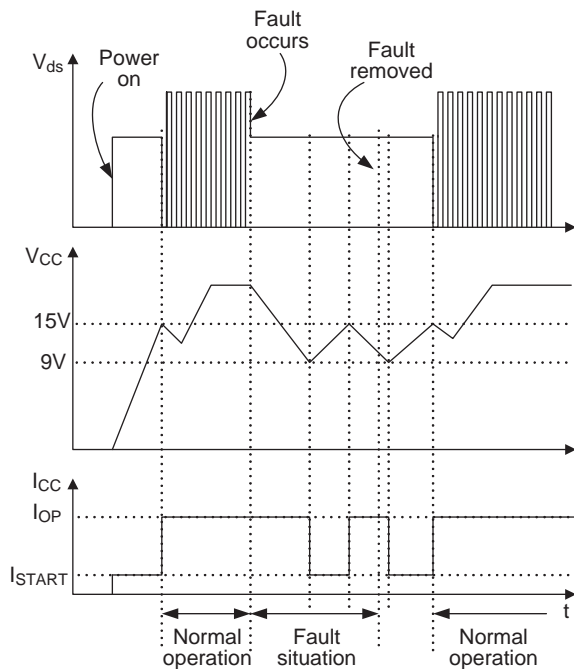

Figure 12. Auto Restart Mode Protection
– **Auto-restart mode protection:** Once the fault condition is detected, switching is terminated and the SenseFET remains off. This causes VCC to fall. When Vcc falls to the under voltage lockout (UVLO) stop voltage of 9V, the protection is reset and the FSCQ-Series consumes only startup current (25µA). Then, the Vcc capacitor is charged up, since the current supplied through the startup resistor is larger than the current that the FPS consumes. When VCC reaches the start voltage of 15V, the FSCQ-Series resumes its normal operation. If the fault condition is not removed, the SenseFET remains off and VCC drops to stop voltage again. In this manner, the auto-restart can alternately enable and disable the switching of the power SenseFET until the fault condition is eliminated (see Figure 12).